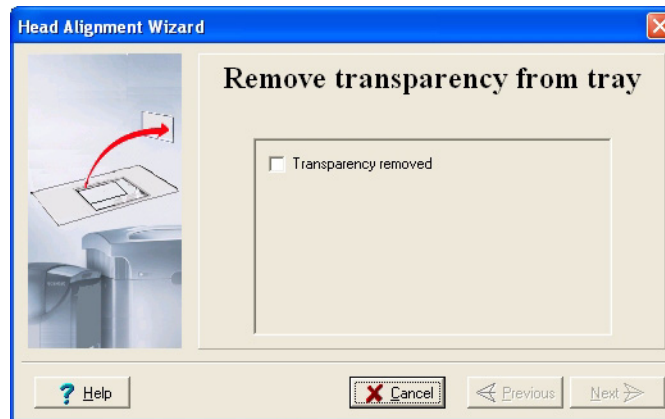

Figure 7-29: Head Alignment wizard—steps 8–10
10. In the wizard screen shown in figure 7-29, select the *Transparency removed* check box, and click *Next*.